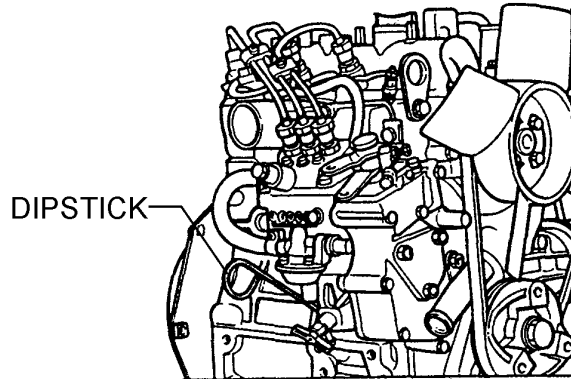

Figure 14. Engine Oil Dipstick Removal
2. Remove the dipstick from its holder (Figure 14) and wipe clean.